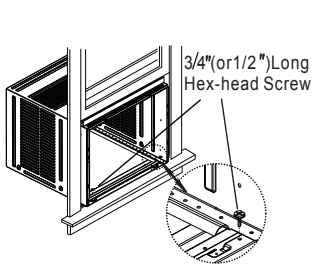
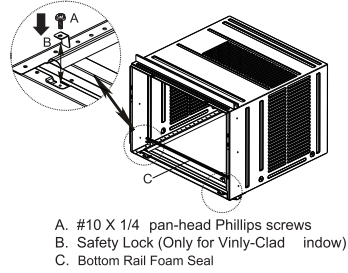

Fig. 13
Fig. 13B
4. For wooden window: Fasten cabinet to window inner sill with two screws into holes (Fig.13) (You may wish to pre-drill pilot holes). For Vinyl-Clad window: Place two safety locks into the holes located in the bottom of the cabinet and drive two #10X1/4" pan-head Phillips locking screws through the safety locks into the cabinet as shown (Fig.13B).